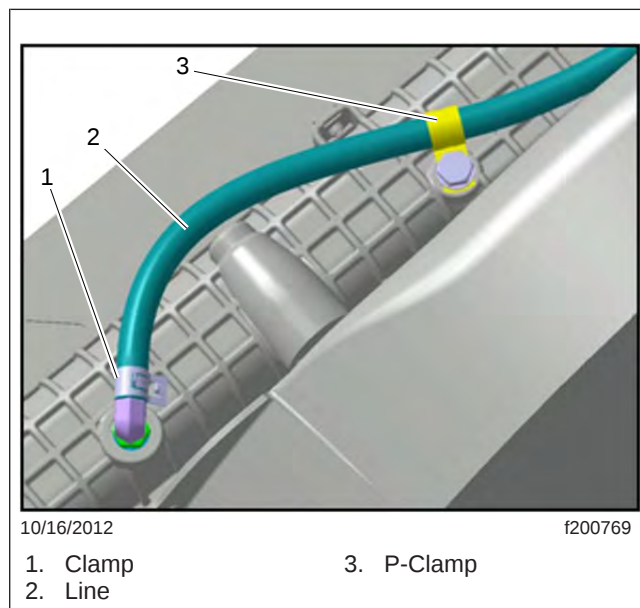

Fig. 6, Surge Tank Vent Line
9. Disconnect the surge tank vent line. See Fig. 6.